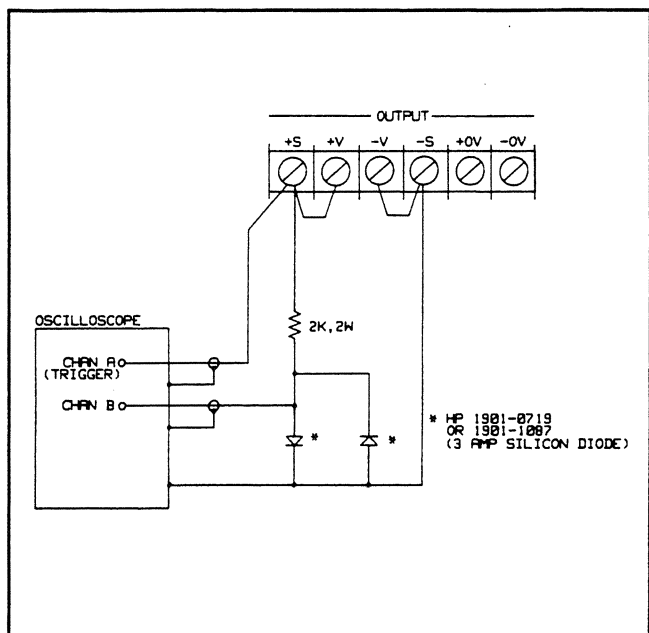
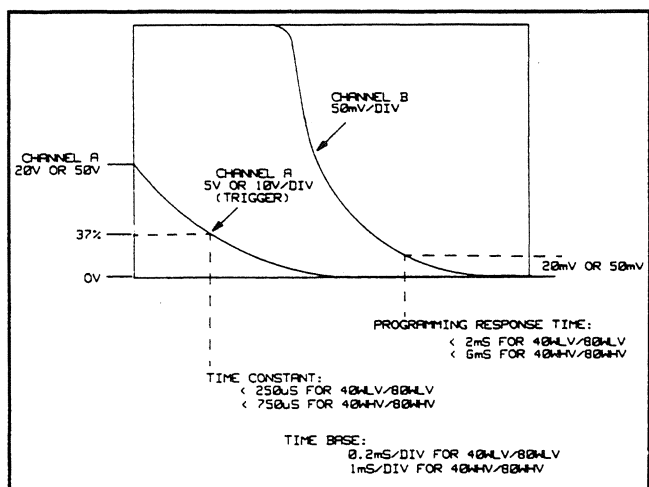

Figure 3-4. Down Programming Speed Test Setup
Figure 3-5. CV Down Programming Speed Test Waveforms
- Turn off the supply and connect the output to be tested as shown in Figure 3-4.
- On Channel A, observe the output voltage transition from the High Range Full Scale Voltage to the scope's bottom horizontal line. Look for a smooth exponential waveform with no "kinks" or aberrations. Perform a time constant check by insuring that the output voltage falls to about 37% of the High Range Full Scale in less than 250 μ sec. (40WLV/80WLV outputs) or 750 μ sec. (40WHV/80WHV outputs). Refer to the Channel A waveform shown in Figure 3-5.
- h. Now observe Channel B on the oscilloscope while maintaining the trigger on Channel A as in step f. Note that the diode clamp, used in the test setup of Figure 3-4, prevents gross overload of Channel B (which is set at 50 mV/div) allowing examination of the "tail" of the exponential waveform. The output voltage should be within 20 mV of its final settling value on the bottom horizontal line in less than 2 msec for 40WLV/80WLV outputs and within 50 mV in less than 6 msec for 40WHV/80WHV outputs. Refer to the Channel B waveform shown in Figure 3-5.